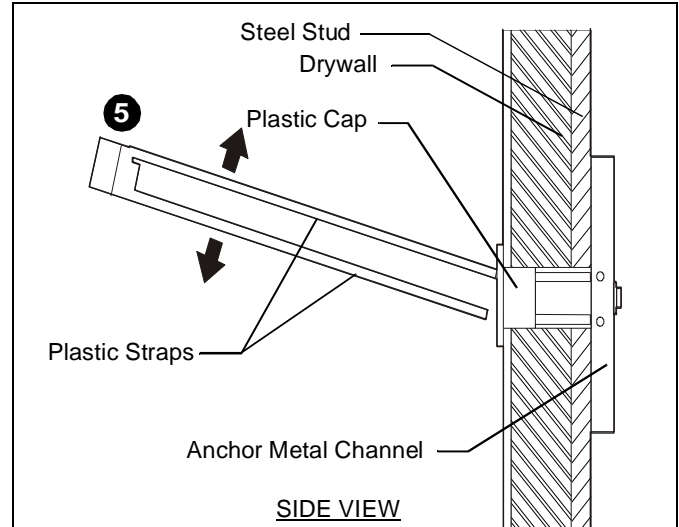

Figure 6
5. Snap off plastic straps on anchor at wall by pushing side to side, snapping off straps level with flange of plastic cap. (See Figure 6)